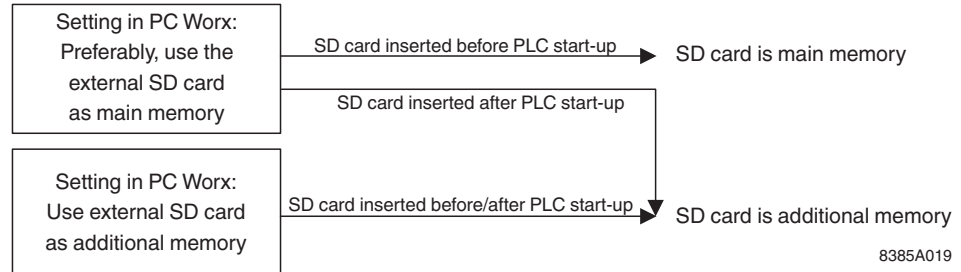

Figure 3-18 Procedure for using the external SD card as main or additional memory
Figure 3-18 shows how to proceed to use the SD card as the main or additional memory.
- If the SD card is **already inserted before starting up** the Inline controller (also refer to Figure 3-18 on page 56), the SD card is used as the **main memory**. All application-specific data is stored on the SD card.
- If the SD card is **only inserted after starting up** the Inline controller (also refer to Figure 3-18 on page 56), the SD card is used as an **additional memory** (also refer to Section 3.7.2). All application-specific data is stored on the internal parameterization memory of the Inline controller.
The SD card is used as an additional memory (also refer to Figure 3-18 on page 56), if